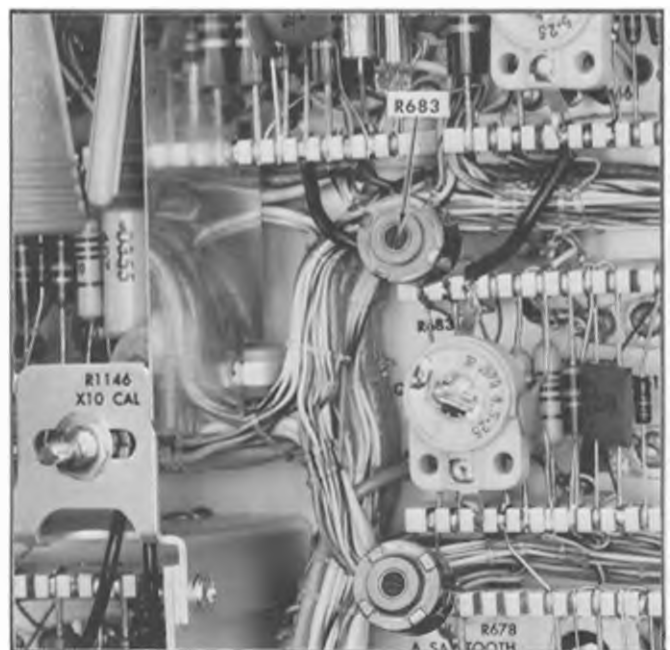

Fig. 6-37. Location of lower beam A sweep gain adjustment for serial numbered instruments 2000 and up.
- f. Adjust R683 (see Fig. 6-37) to obtain one 100-microsecond marker/cm.